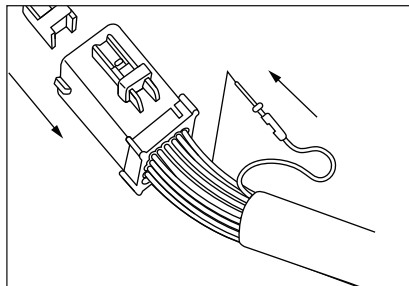

Figure 2
3. Re-install Locking Wedge into Connector.(Figure 2)